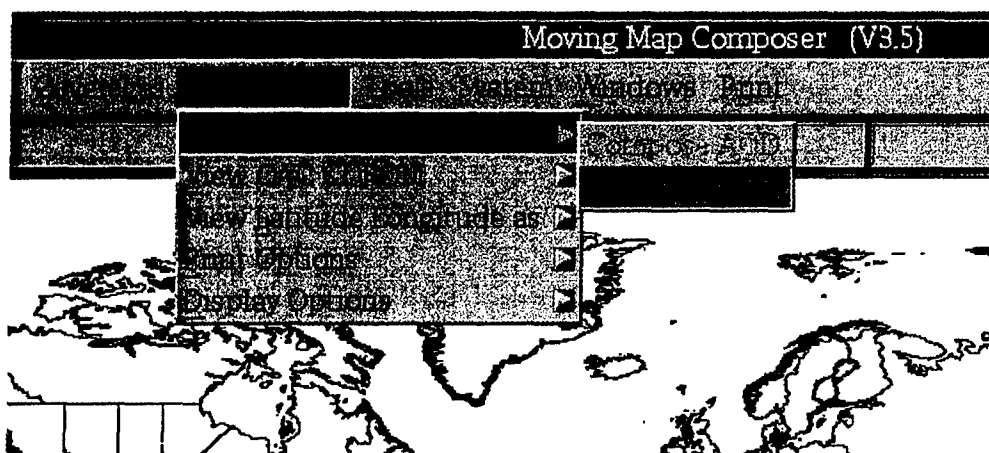

Fig. 26 — Composing preferences
- When switched to Composing MPS ON – by clicking on the Compose MPS option (Fig. 26) – MMC will compose an image based on the restrictions of MPS images (e.g., image size). A message box appears to confirm selection of this option. DTED data is only available when the Compose MPS preference is on.